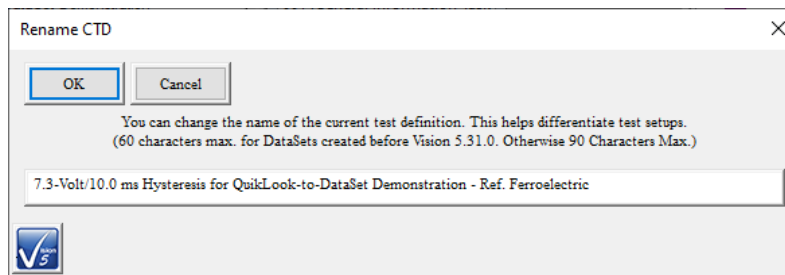

Figure 5 – Archived Data Identifier.
- c. Current Test Definition (CTD) – This is the experiment that is ready to run in the DataSet. It consists of the Hysteresis Task as configured in QuikLook. The CTD is named as configured in **Figure 5**.